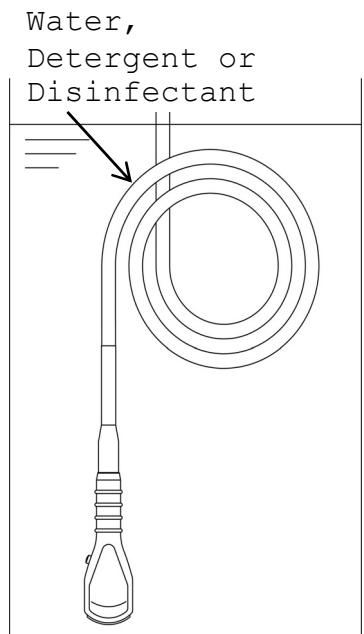

Fig. 3 Immersion of the probe
- 2) Immerse the immersible part of the probe without connector into the diluted detergent solution (see Figure 3). Wipe the immersible part of the probe under the surface of the detergent solution with a soft cloth to remove all visible soil. Be sure that all grooves of the probe are implemented during the cleaning process.
- 5) Rinse the probe with running tap water for 1 minute. (alternatively: immerse the immersible part of the probe in a tray filled with deionized water/tap water (see Fig.3) for 5 min.)
- 3) Immerse the immersible part of the probe into the disinfectant (see Fig. 3). Set a clock to insure the recommended contact time which is 5 minutes.
- 4) Rinse the immersible part of the probe with deionized water for 1 minute. (alternatively: immerse the immersible part of the probe in a tray filled with deionized water (see Fig. 3) for 5 min.)